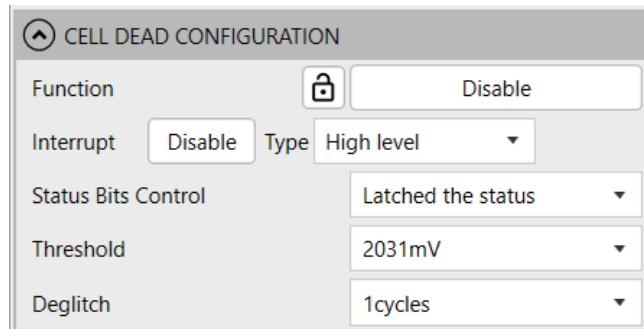

Figure 25: Cell Dead Configuration
20. Figure 25 shows how to configure the cell dead parameters.